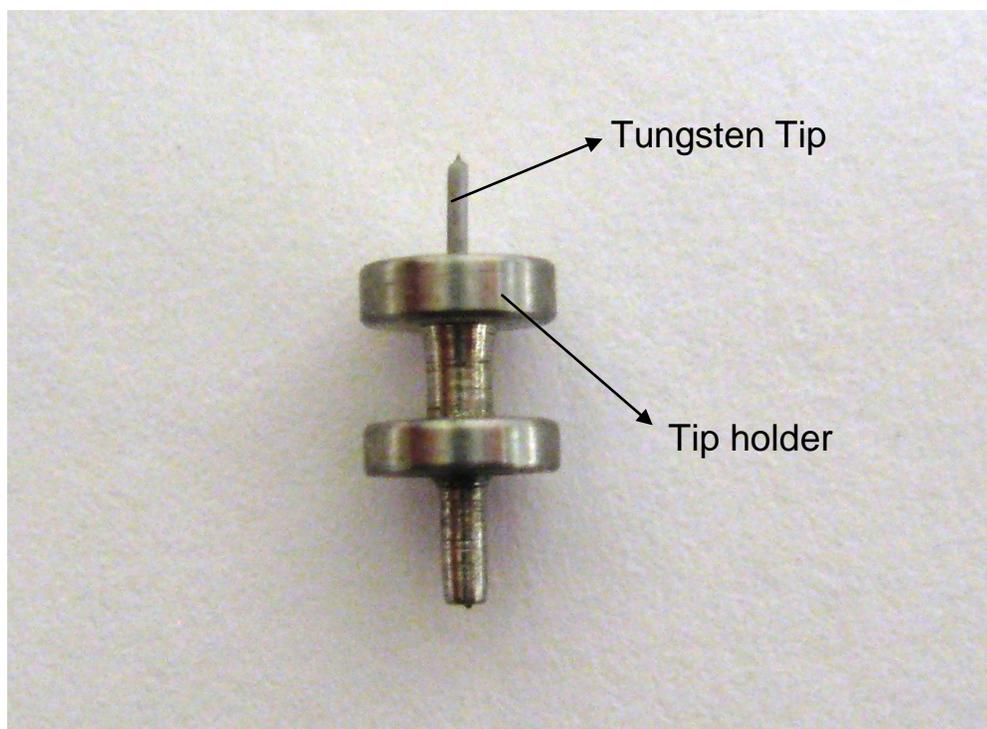

Fig. 2: Tungsten tip mounted onto the tip holder
- *tip holder* (see Fig. 2);
15. *Carefully mount the tip onto the holder* (Fig. 2) and *make sure it is fixed in place*.